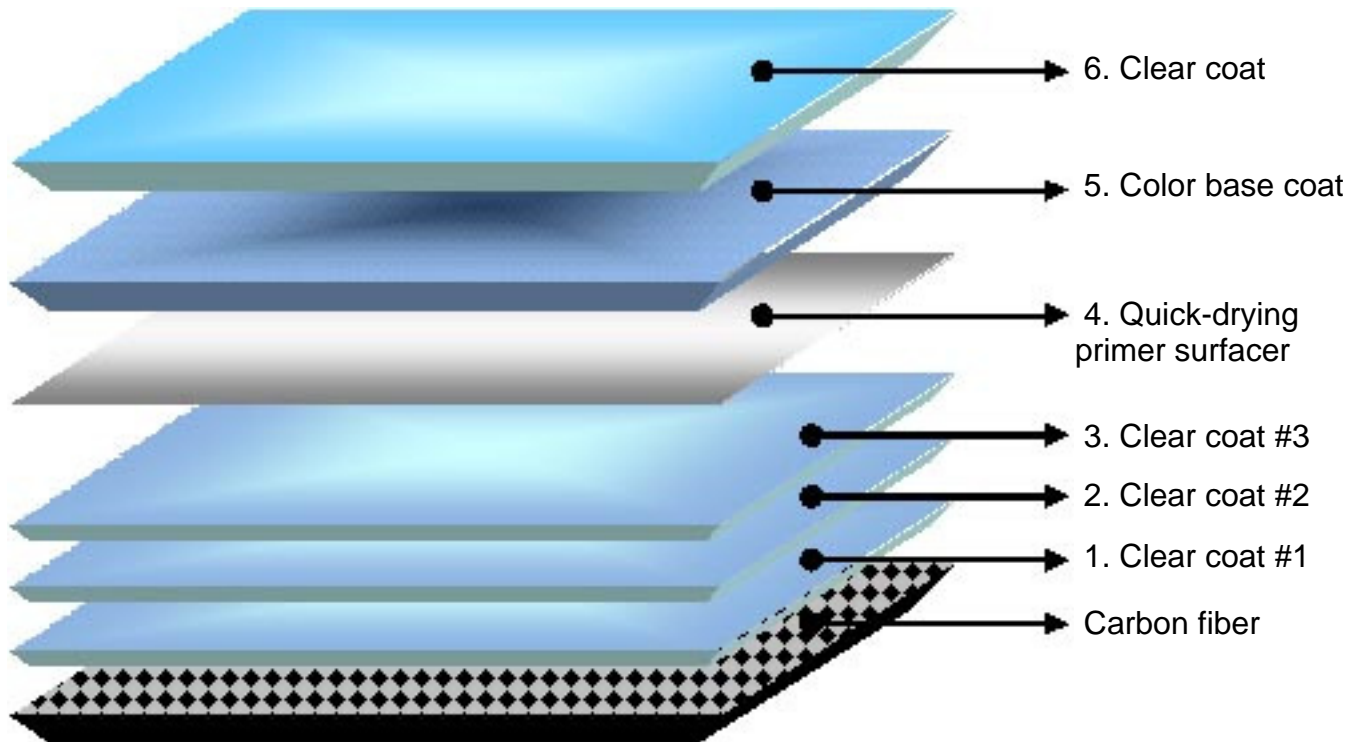

Figure 4
- When painting body color components refer to Figure 4:
- For the front and rear bumper fascia and trunk lid assembly use (4) to (6) illustrated below.